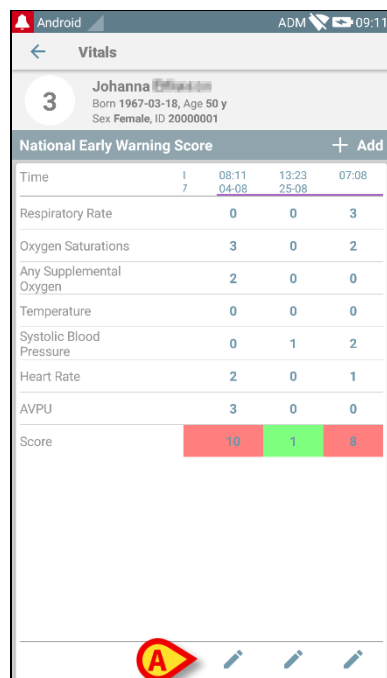

Fig 57
- Select the relevant dataset (Fig 56 **A**, for instance). The acquired datasets summary will open (Fig 57).
- Touch the “pen” icon corresponding to the set to be edited (Fig 57 **A**)